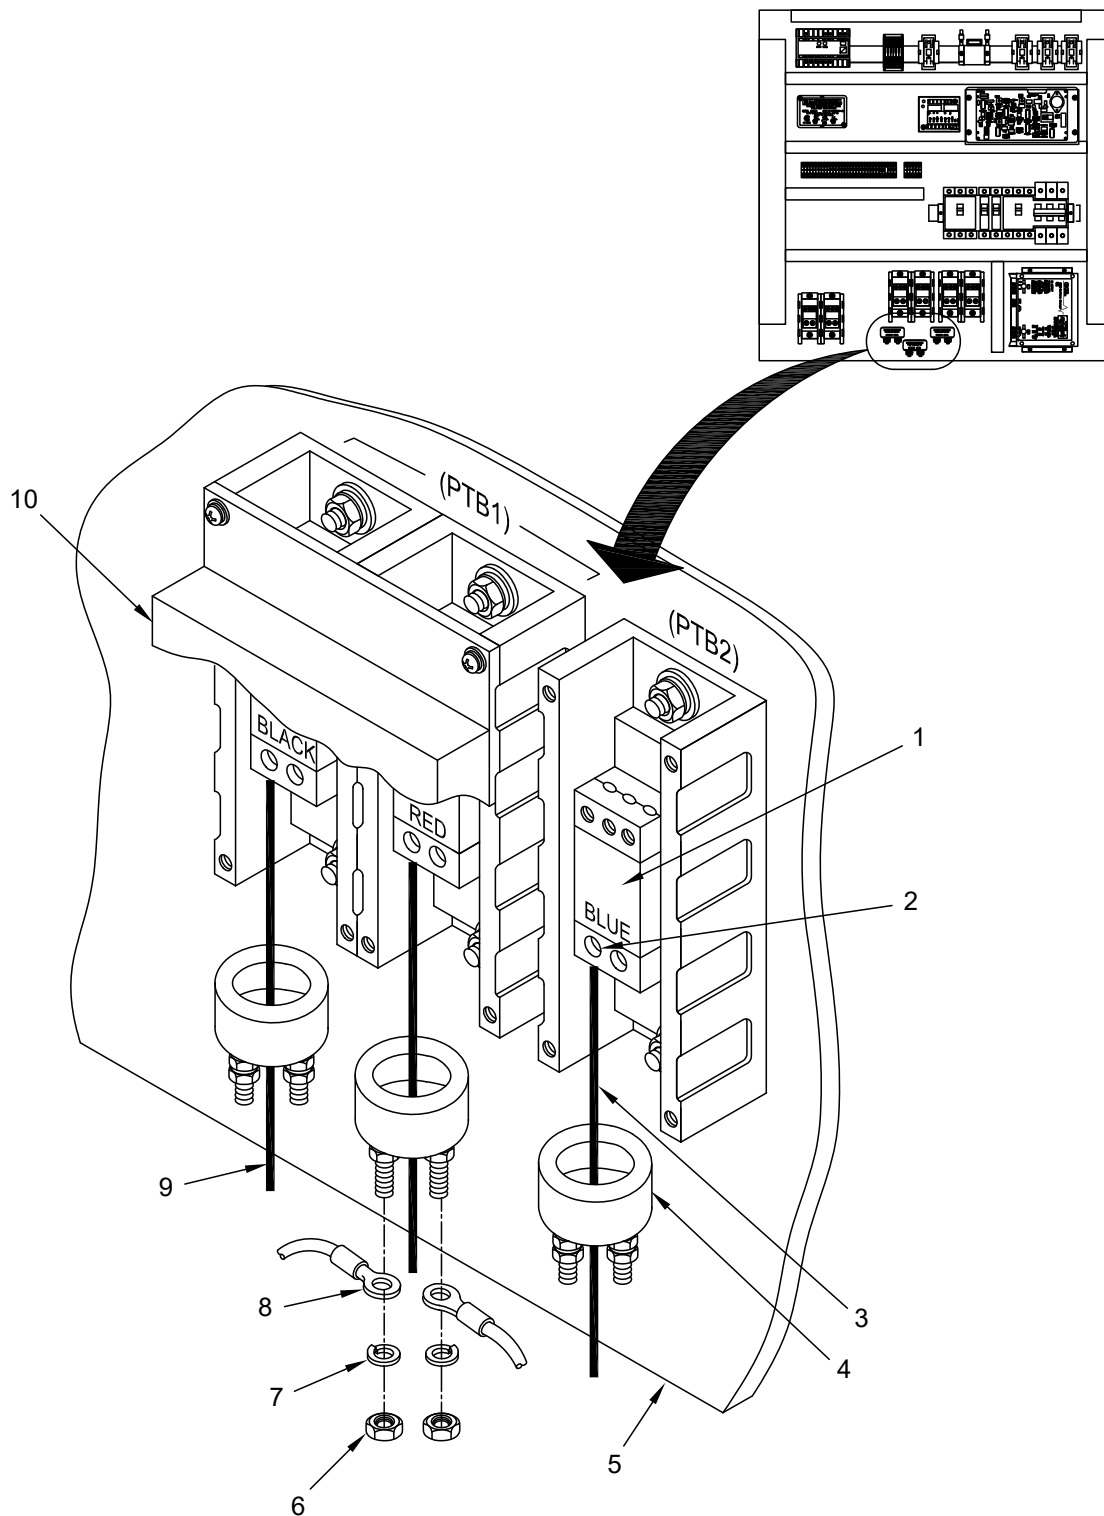

Figure 1. Current Transformer Removal/Replacement.
1. Place current transformer (Figure 1, Item 4) onto barrier panel (Figure 1, Item 5) and secure using strap tie.
2. Feed wire (Figure 1, Item 3) through current transformer (Figure 1, Item 4) and connect to terminal block (Figure 1, Item 1) and tighten terminal screw (Figure 1, Item 2). If applicable, secure plastic cover (Figure 1, Item 10) protecting terminal block (Figure 1, Item 1).
3. Connect electrical terminals (Figure 1, Item 8) to current transformer (Figure 1, Item 4) and secure using nut (Figure 1, Item 6) and lock washer (Figure 1, Item 7).
5. Connect all cables to power distribution panel (Figure 1, Item 1).
6. Connect negative terminal to battery (see WP 0056). Start Genset (Figure 1, Item 1) in accordance with Genset Start Procedure (WP 0005) of this TM.